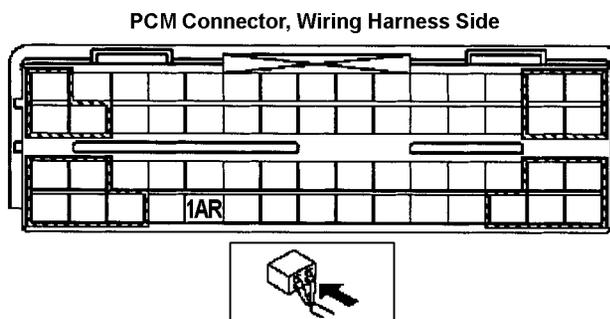

Figure MA014-20
6. Use a fused jumper wire to ground the PCM terminal 1AR (Figure MA014-20).